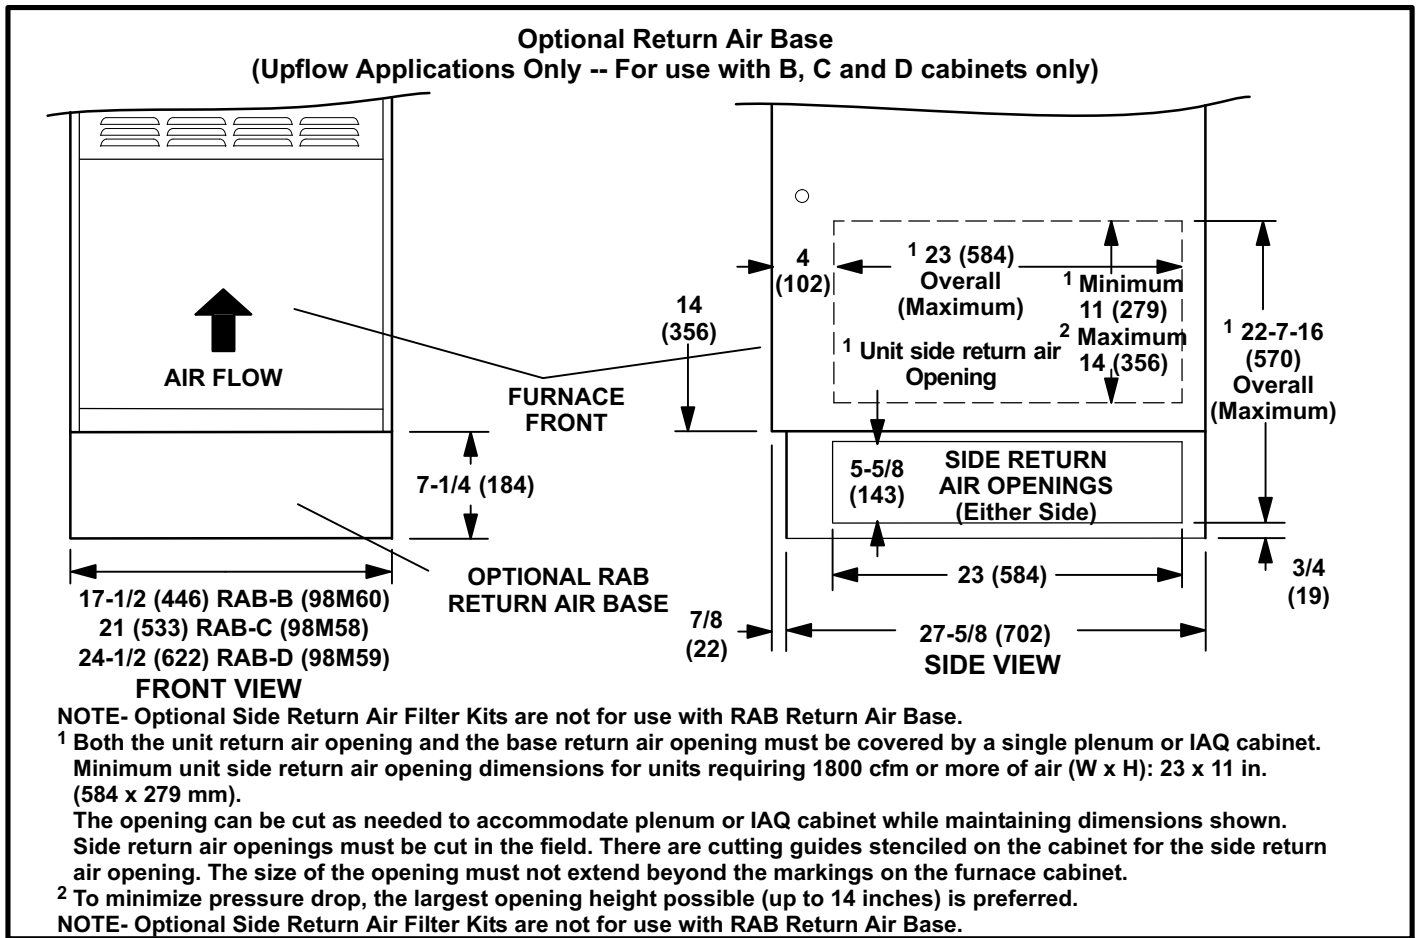

FIGURE 9
- 2 - Return air from single side with optional RAB Return Air Base. See figure 9.